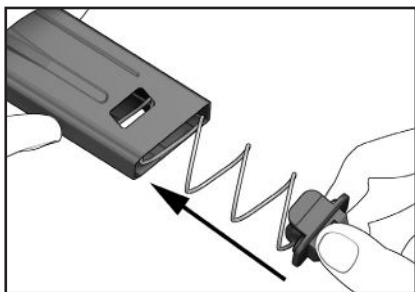

Figure 38
2. Insert the follower and magazine spring into the magazine housing as depicted in Figure 38.